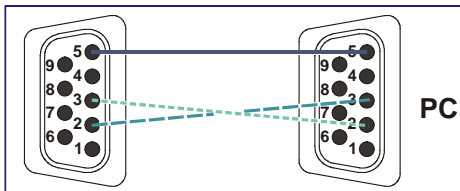

Figure 5: Crossed Cable RS-232 Connection
**Method A** (Figure 5)—Connect the RS-232 9-pin D-sub port on the unit via a crossed cable (only pin 2 to pin 3, pin 3 to pin 2, and pin 5 to pin 5 need be connected) to the RS-232 9-pin D-sub port on the PC.